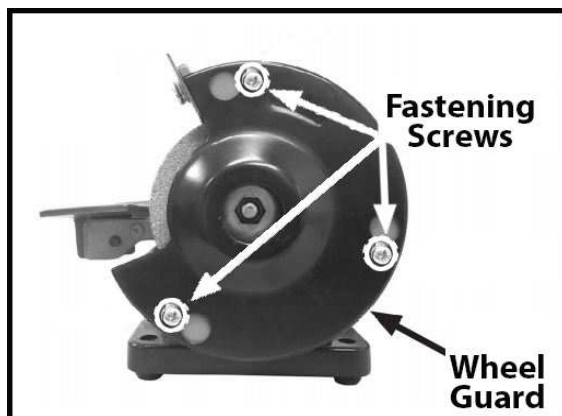

Figure 11
2. Remove outer guard by loosening (3) M4-.7 x 10 Phillips head screws with captive flat and lock washers holding the guard in place. See figure 11 on the next page.